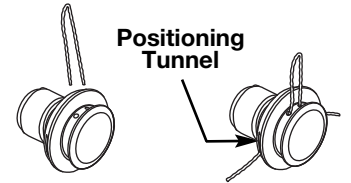

Fig. 16
3. While firmly holding the attachment, push it straight into the coupler until the release button (Fig. 16) snaps into the primary hole (Fig. 16). The primary hole is on the opposite side of the coupler from the knob (Fig. 16). Align the release button with the Guide Recess (Fig. 16) to help installation.
3. Press and hold the release button (Fig. 16).
4. Insert both ends of your line through the proper holes in the side of the cutting head (Fig. 16).